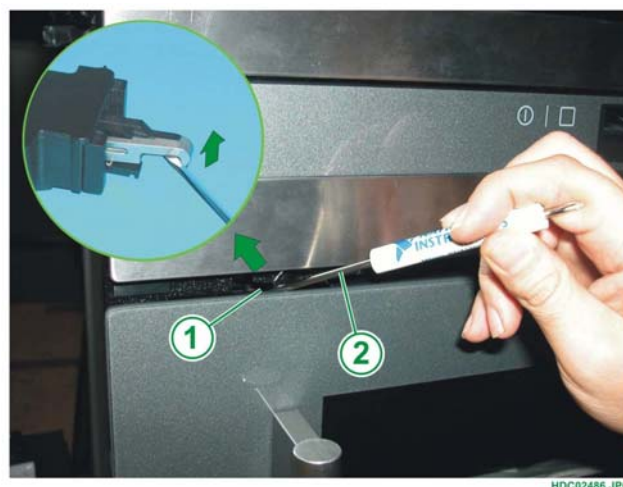

Fig. 49
- 1 - Insert a 3mm screwdriver into the hole to lift up the closure hook of about 3 mm to allow releasing the door lock (see Fig. 49).